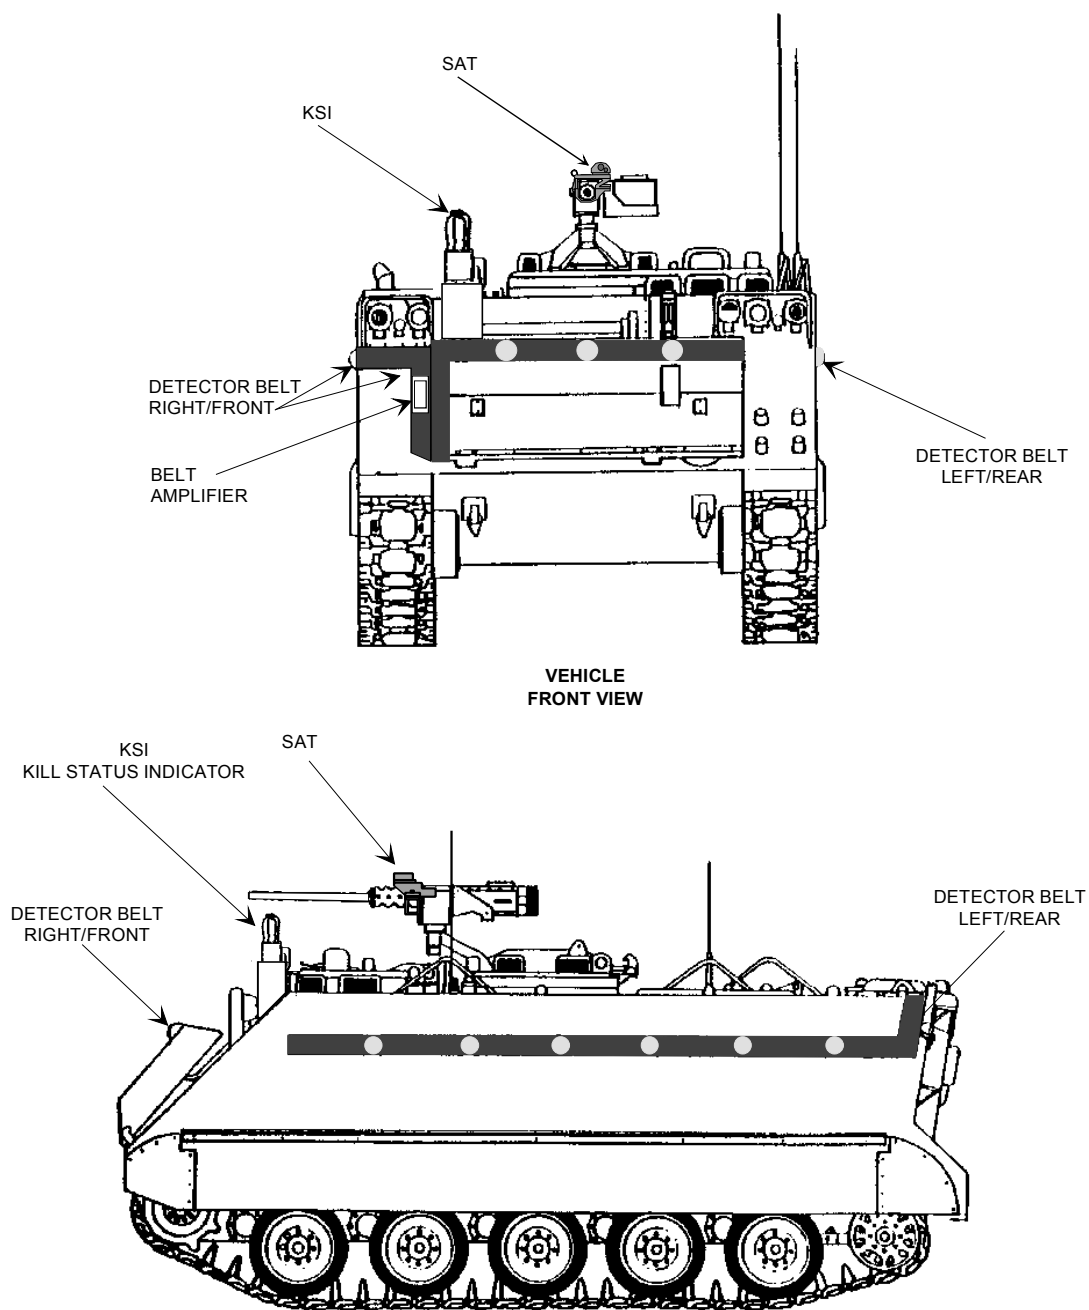

Figure 2-11. MILES 2000 Installation on M113.
2.3.2.2 Detector Belt Fastener Tape. (See Figure 2-11.)
- b. The belt labeled "Right Front," without the system cable connector, starts just below the left halogen lamp continuing across the top of the trim vane. Fastener tape will be needed across the top of the trim vane, but not underneath the left halogen lights. (This will allow the trim vane to be extended without interference from the detector belt. See Figure 2-11, front view.) Route the belt to the right edge of the trim vane. There will be a 90E angle in the belt. The angled portion of the belt will be routed down the right side of the trim vane. Fastener tape will need to be affixed across the top of the trim vane and down the right side of the trim vane.
2.3.2.2.3 Fastener Tape (Right/Front). Apply fastener tape to match the outline of the detector belt placement. Ensure the tape does not buckle or crease. (See Figure 2-11.)
2.3.2.2.4 Fastener Tape (Left/Rear). Apply fastener tape to match the outline of the detector belt placement. Ensure the tape does not buckle or crease. (See Figure 2-11.)
- e. Working in short sections, press the detector belt labeled “Right/Front” along the fastener tape applied for that belt. Ensure that there are no buckles or creases in the belt. The connector for the system cable should be positioned at the right rear corner of the vehicle. (See Figure 2-11.)